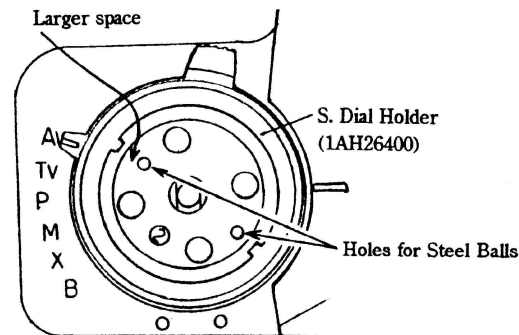

Fig. 4
- 2) Install the S. Dial Holder (1AH26400) in the position as shown in Fig. 4.